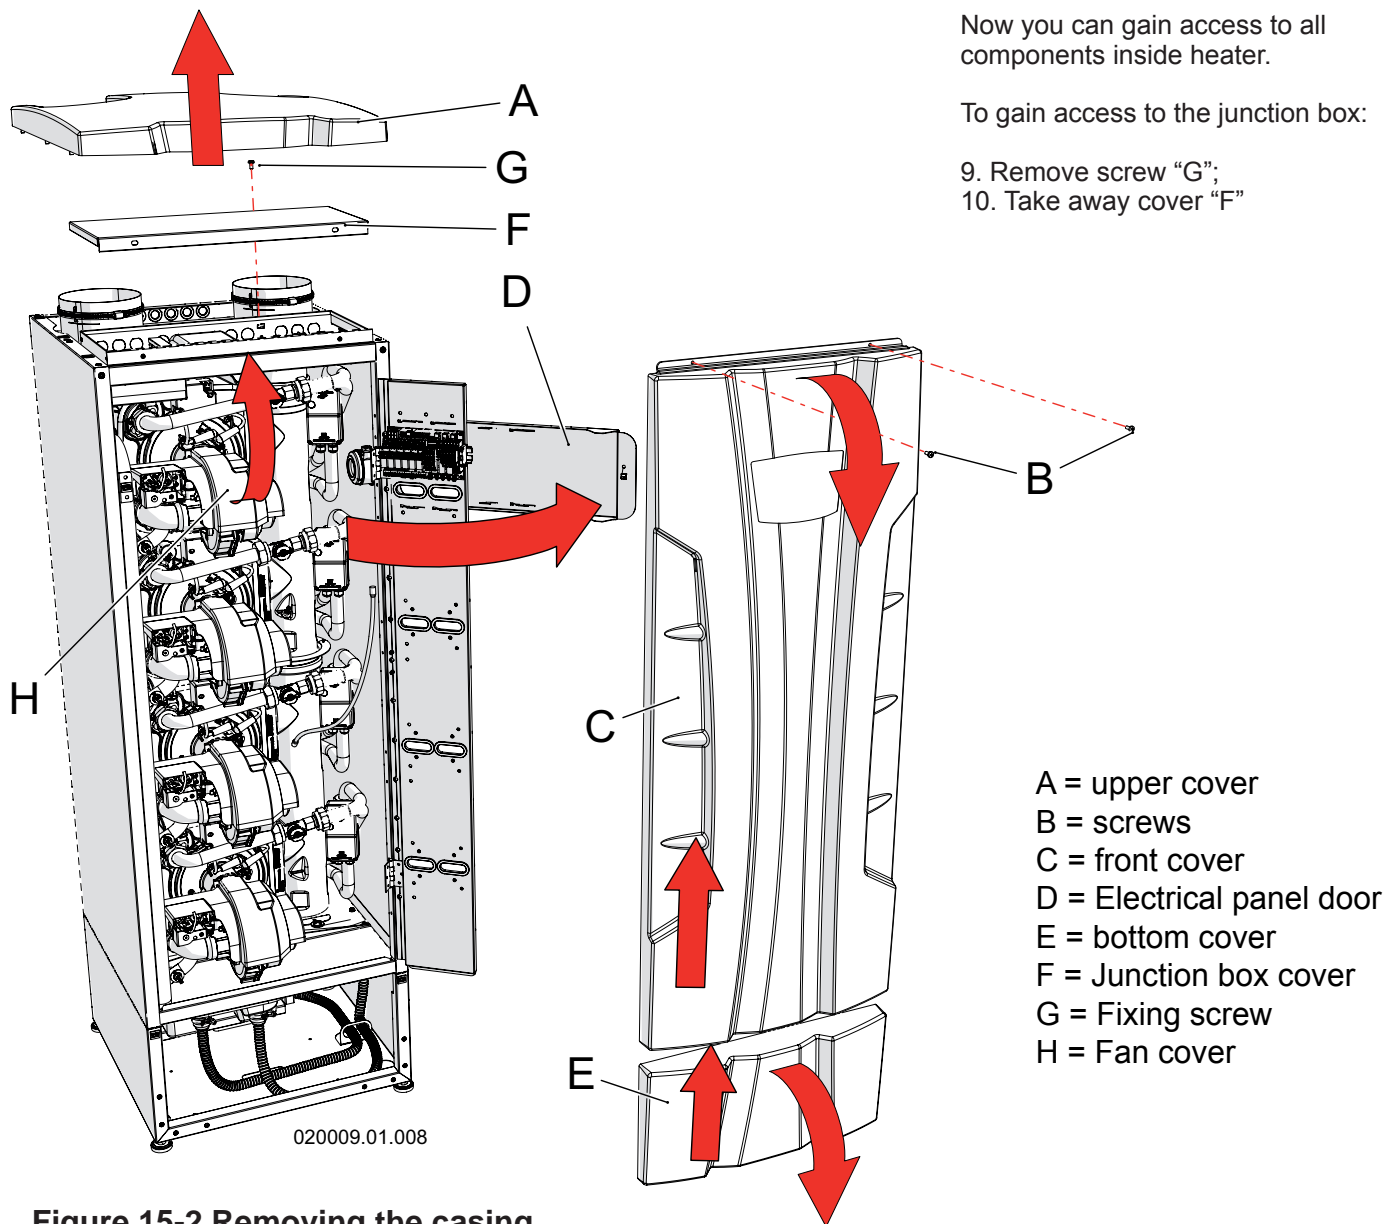

Figure 15-2 Removing the casing
In order to remove the casing, follow the steps below while referring to Figure 15-2:
1. follow the steps in Section 15.2 to remove cover "E" of Figure 15-2;